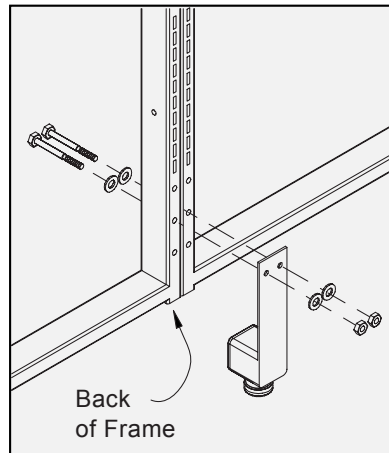

Fig. 6A
- A. Place the Center Support Leg in back of the Frames to be joined (Fig. 6A).
- C. Insert the bolts into each hole, attaching the Center Support Leg to the Frames (Fig. 6A).